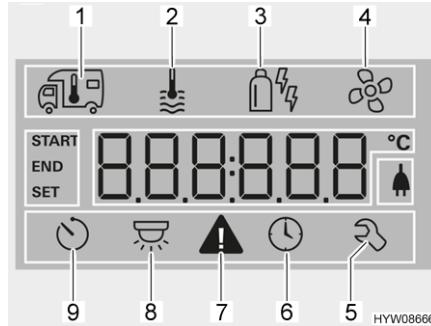

Fig. 57 Display (operating unit)
- Turn rotary push button (Fig. 56,6) until the heater menu symbol (Fig. 57,1) flashes.
- Turn rotary push button (Fig. 56,6) until the hot water menu symbol (Fig. 57,2) flashes.
- Turn rotary push button (Fig. 56,6) until the menu symbol operating mode (Fig. 57,3) flashes.
- Turn rotary push button (Fig. 56,6) until the fan menu symbol (Fig. 57,4) flashes.
- Turn rotary push button (Fig. 56,6) until the timer menu symbol (Fig. 57,9) flashes.
- Press rotary push button. The timer is activated. The timer symbol (Fig. 57,9) flashes when the timer is programmed and active.
- The warning symbol (Fig. 57,7) flashes in the event of a warning. The heater continues to operate. In the event of only a temporary fault, the warning symbol goes out automatically.